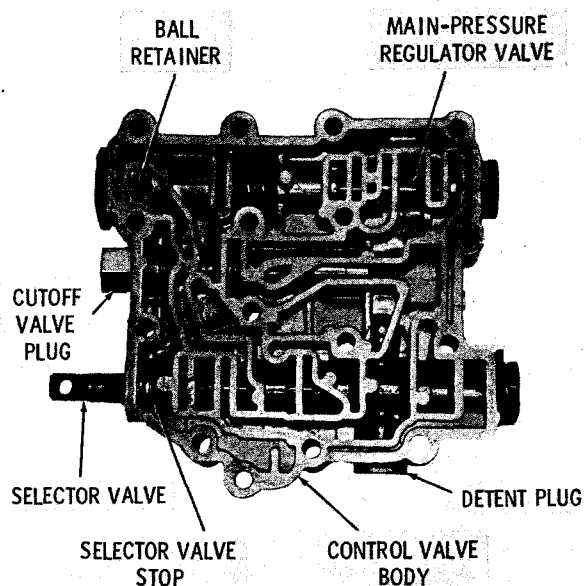

Fig. 6-3. Control valve body assembly--
(1) Remove the selector valve stop from the selector valve (fig. 6-3). Remove plug 32 (or customer-supplied neutral start switch and spacer) and washer seal 33 (B, foldout 7). Remove detent plug 29 and gasket 30, and remove one detent spring 31 and one detent ball 28 from control valve body 9.
(2) Remove plug 36 and gasket 35 from the control valve body. Remove manual selector valve 27 by tapping on the front (plug end) of the valve, driving oil seal 26 from the valve body with the valve. Remove the remaining detent ball 28 and detent spring 31.
(3) On models equipped with hydraulic-actuated clutch cutoff, remove retainer plug 25 and gasket 23. Remove clutch